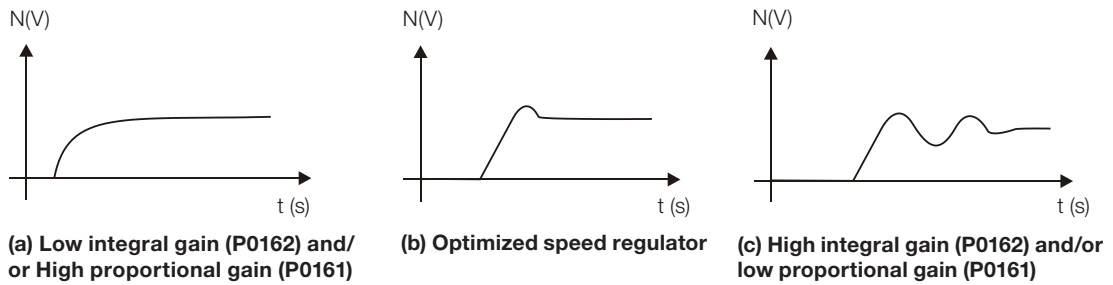

Figure 13.5: (a) to (c) Speed regulators response types
6. Verify among the options of the Figure 13.5 on page 13-15, which waveform best represents the observed signal.
7. Adjust P0161 and P0162 according to the response type presented in the Figure 13.5 on page 13-15.